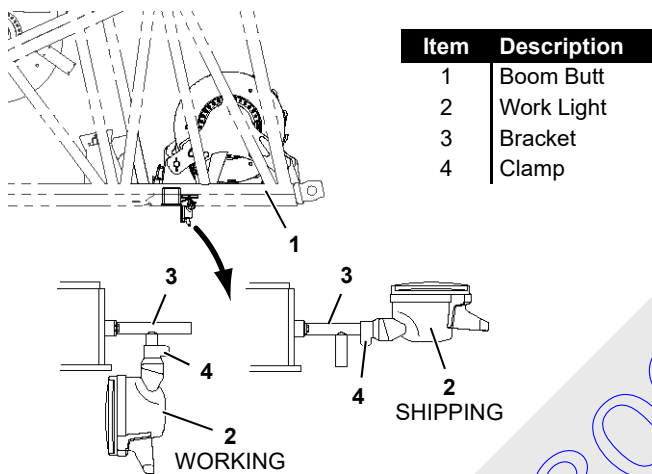

FIGURE 4-52
6. If equipped with work lights, move the light in the boom butt from the shipping position to the working position (see Figure 4-52).